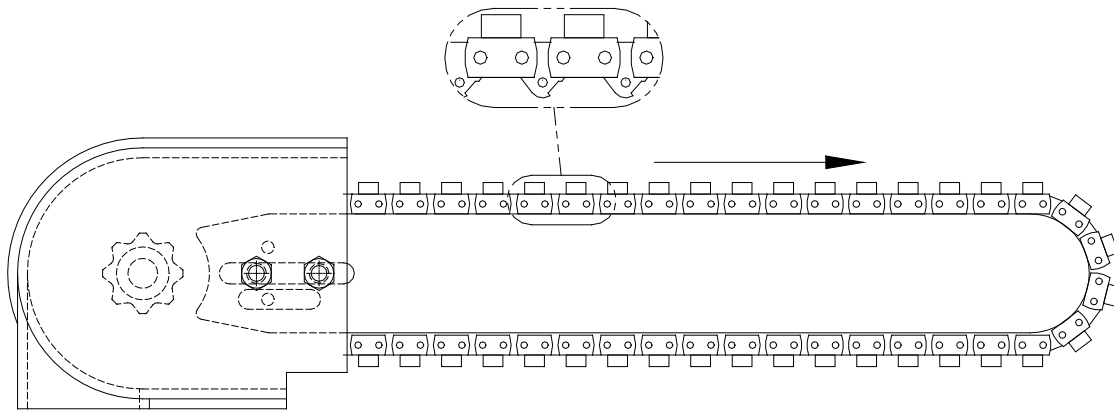

Figure 3-1.
5. The chain **MUST** be installed with the bumper link leading the diamond segment. See Figure 3-1. **Backward (reverse) chain installation can cause excessive vibration, rough cutting, reduced chain life, and chain breakage.**